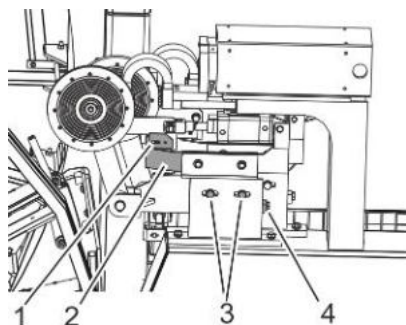

Fig. 44: Cylinder stroke adjustment
The air gap between the swivel arm (Fig. 44/1) and its limit stop (Fig. 44/2) must be approx. 2.5 - 4 mm (0.1"-0.2").
7. Loosen screws (Fig. 44/3) and adjust distance with adjusting screw (Fig. 44/4).